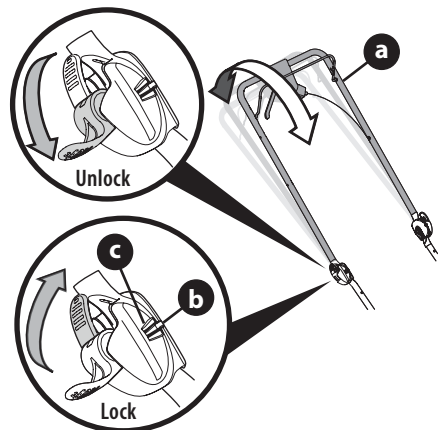
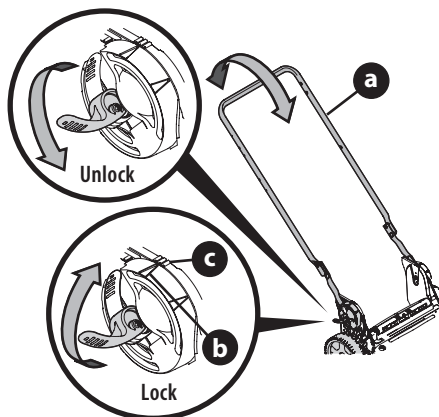

Figure 26
Figure 27
**NOTE:** For EZ-Fold handles see Figure 26 or for vertical storage handles see Figure 27.